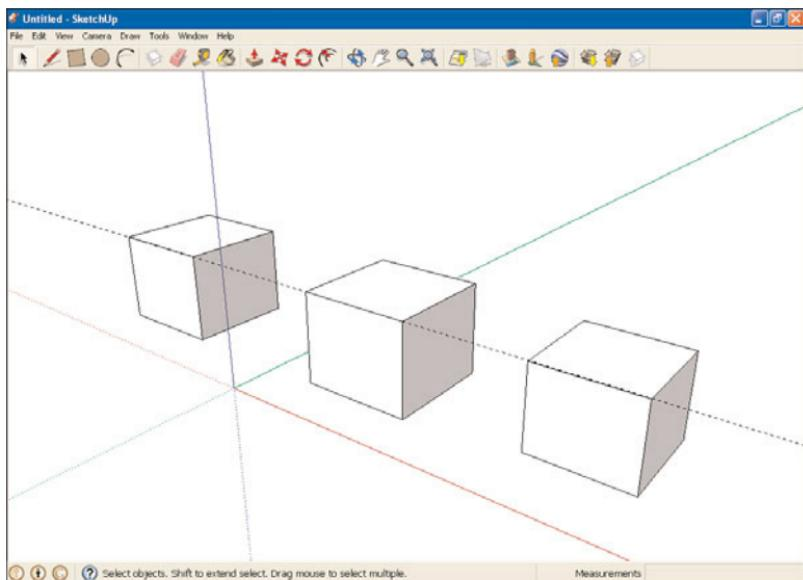

FIGURE 9.18 Aligning three cubes.
16. Repeat steps 12–15 to align the third cube, as shown in Figure 9.18.